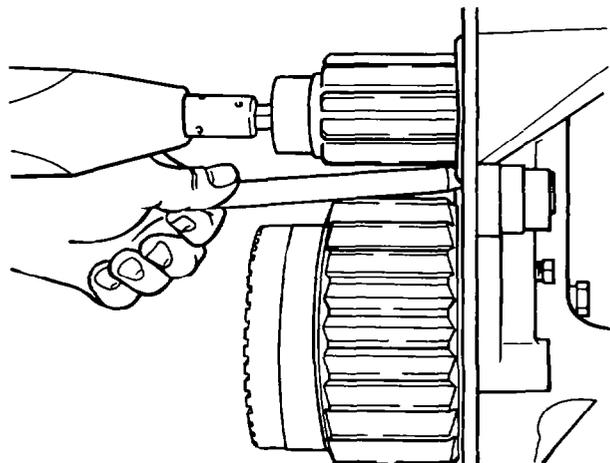

Figure 48 Removing the Centre Bolt
- f. Lock up the final drive by inserting a soft round drift or punch between the cogs of the half-shaft gear and hub gear; remove the centre bolt securing the half-shaft gear to the half-shaft (see Fig 48).